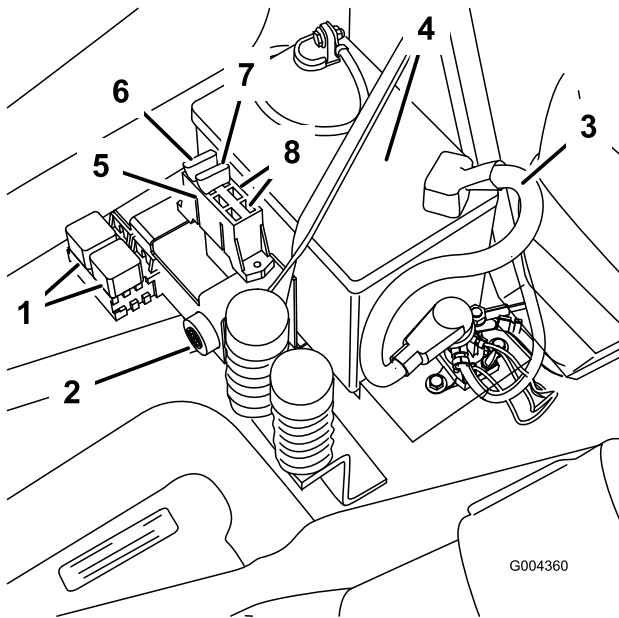

Figure 44
1. Raise the seat to gain access to the fuse holder (Figure 44).
2. To replace a fuse, pull out on the fuse to remove it (Figure 44).